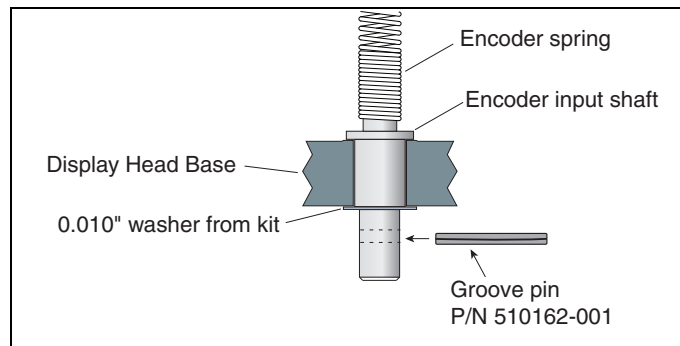

Figure B-4. Securing Encoder Input Shaft In Display Head Base
6. From the underside of the Display Head, insert the groove pin from the kit into the hole in the input shaft to secure it in base of the unit (Figure B-4).